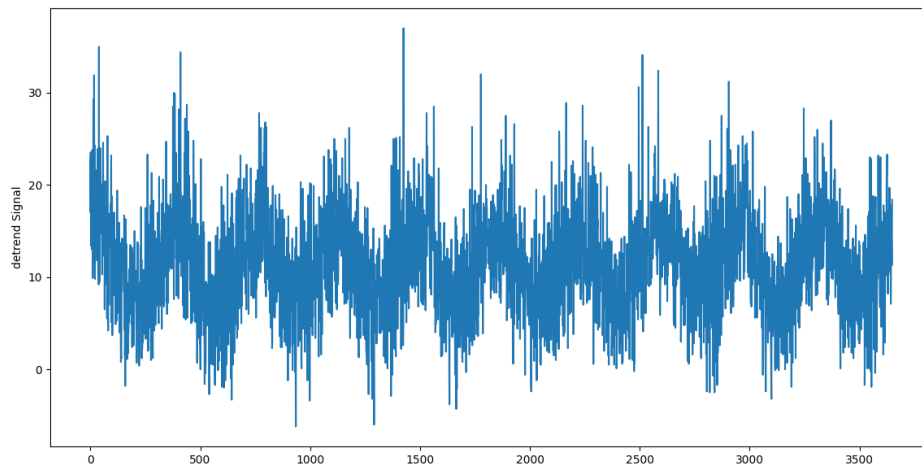

Figure 12: Detrending of the first dataset by difference method.
- (d) *Difference method (Figure 12 and 13)*